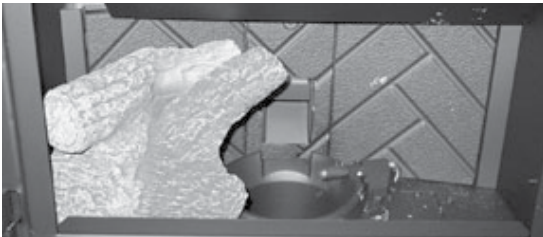

Figure 25.1
2. Install the left log first and then the right log (**Figure 25.1**).